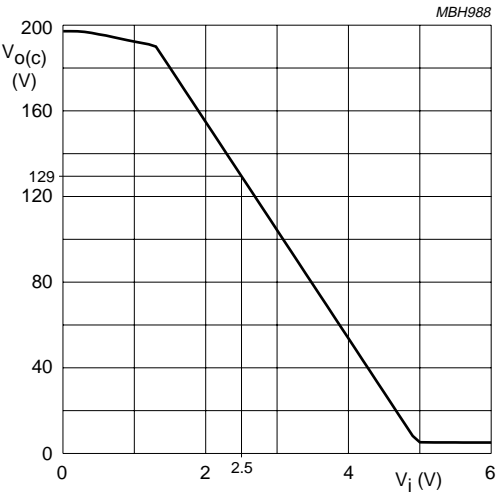

Fig.5 Typical DC-to-DC transfer of V_I to V_{OC} .
1. See also Fig.5 for the typical DC-to-DC transfer of V_i to $V_{O(oc)}$.